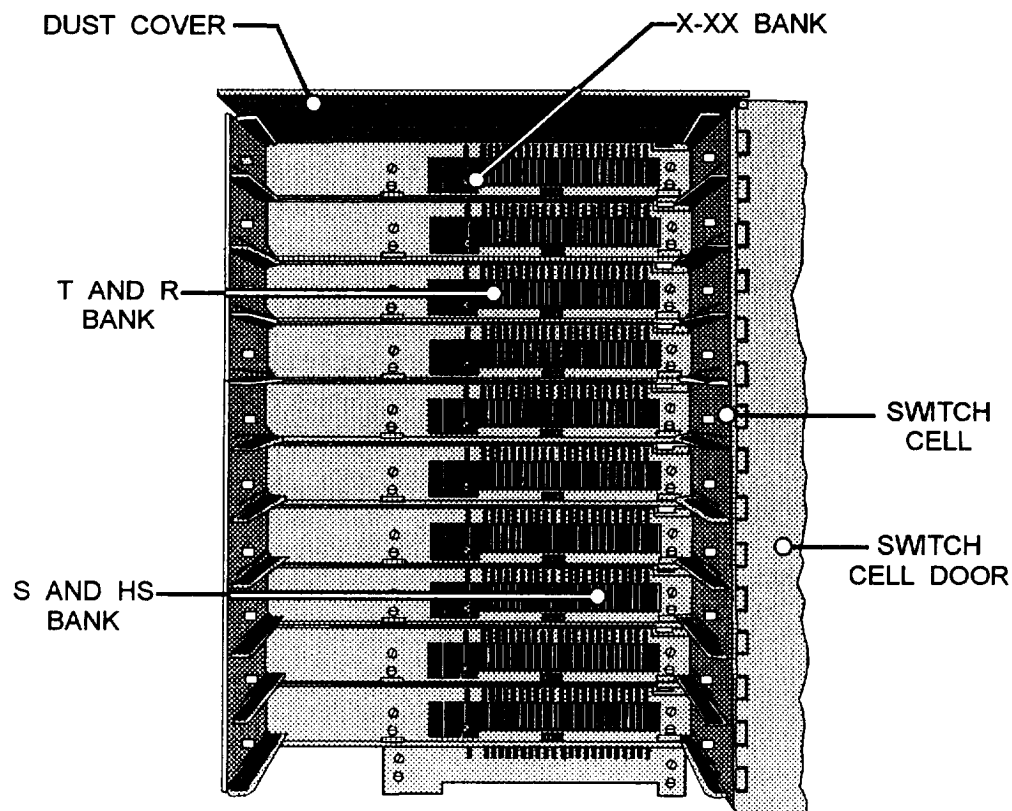
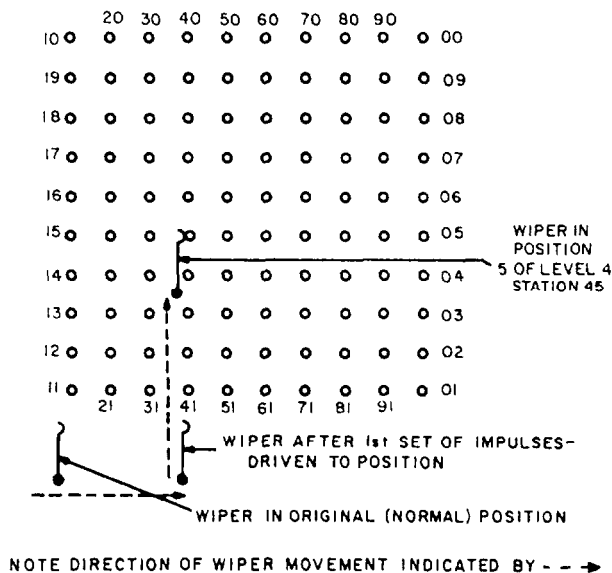

Figure 6-31.—XY switch and cell banks.
Figure 6-32.—Wire bank and associated XY switch wiper simplified schematic diagram.
**THE WIRE BANK.**— The 42- by 10-wire bank associated with the XY switch is actually made up of six smaller wire banks: four 10- by 10-wire banks and two 1- by 10-wire banks. The 10- by 10-wire banks are used with the four wires associated with each telephone line. These four wires are the tip (T) and ring (R) for transmission, and sleeve (S) and helping sleeve (HS) for supervisory and switching. The 1- and 10-wire banks (XX and X) are used to electrically indicate the X position of the wipers when the wipers are stepped in the X direction. Each of these banks is associated with its own particular wiper on the XY switch. The switch wipers are referred to as the T, R, S, HS, and XX-X wipers or banks (fig. 6-31). Figure 6-32 is a simplified diagram of one of the 10- by 10-wire banks (as seen from above) and the associated wiper.